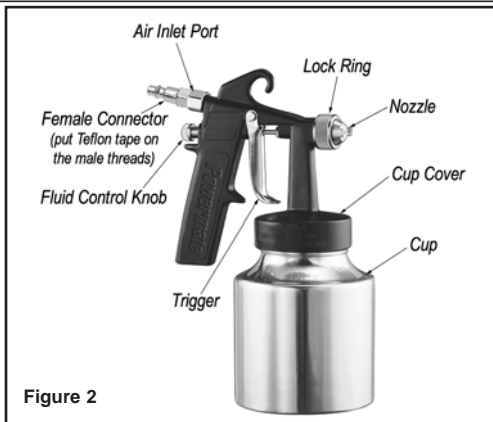

Figure 2
2. Install a 1/4" NPT female connector (not included) into the air inlet port on the tool (see Figure 2). **Note: Use Teflon® Tape on all threaded connections.**
- a. Fluid control knob (see Figure 2) - turn in a clockwise direction to close and counterclockwise to open. This knob controls the amount of paint that is mixed with the air.